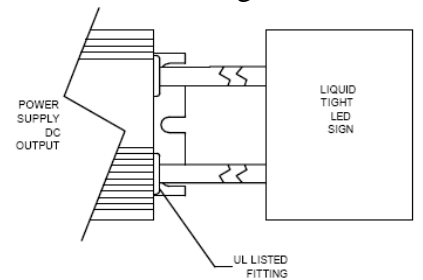

Fig2
- Conduit fitting shall be used :UL Listed Heyco LTF1/2,AVC industrial FGA 13-08 or equivalent (Fig 2, 3) .
- DC output wire splicing must be done inside of liquid tight enclosure Or using liquid tight terminals and leads are rated and marked PLTC Or CL3R or “Sun Resistant” (Fig 2, 3).